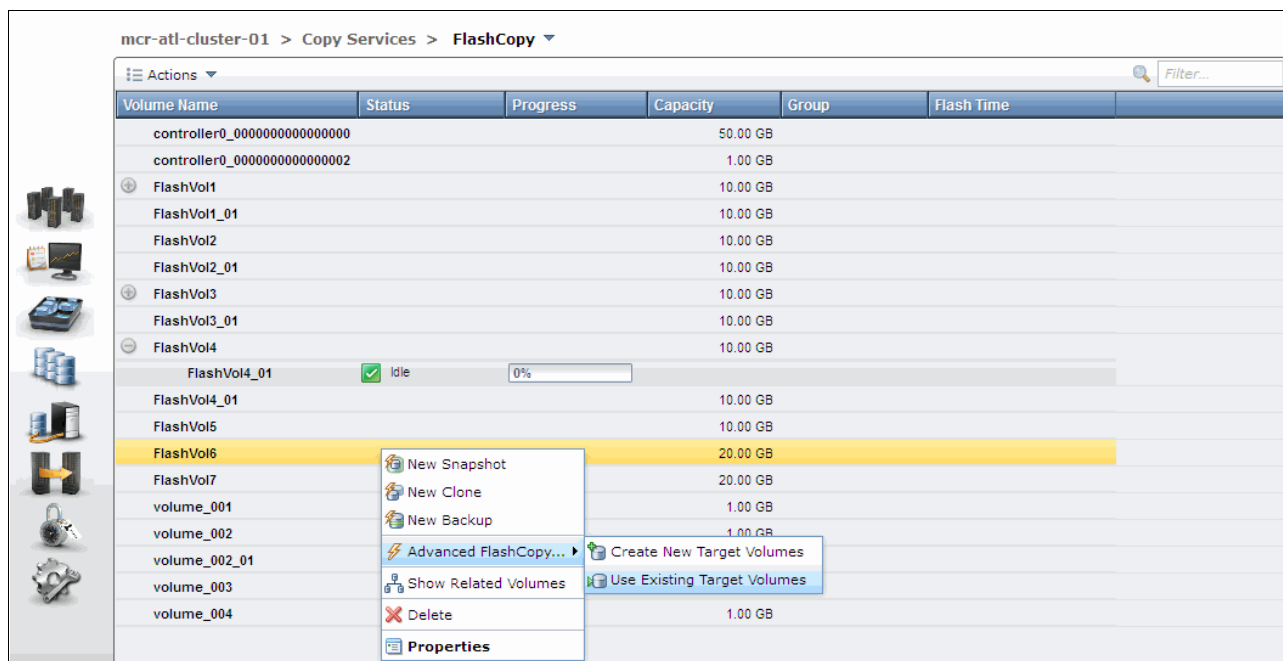

Figure 10-25 Create FlashCopy mapping by using existing target volume
1. If you already have candidate target volumes, select **Use Existing Target Volumes** in the Advanced FlashCopy menu, as shown in Figure 10-25.